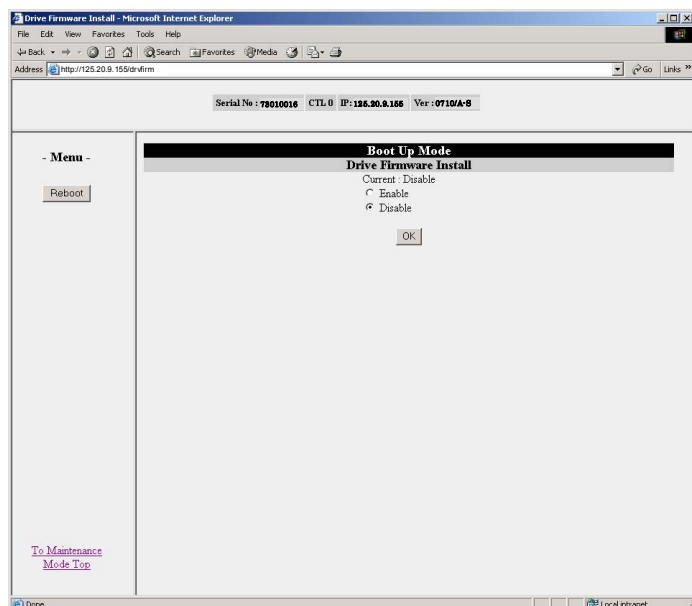

Figure 14.6.12 After Booting (Boot Up Mode)
- (4) When Figure 14.6.12 is displayed, select [Enable] on the [Boot Up Mode] and click the [OK] button.